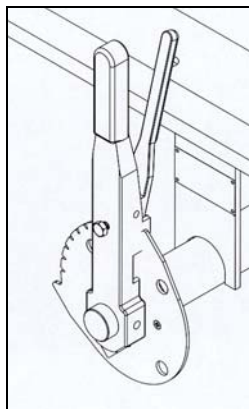

Figure 2.
5. Slide the new notch plate over the valve shaft (countersink holes pointing outward) and install the new handle assembly in the gate, rotate the handle to the closed position. (Make sure the handle is pointing upward) see fig 2.